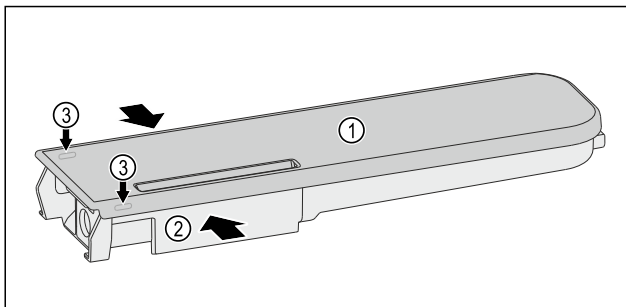

Fig. 220
- ▶ Push the water tanks *Fig. 220 (2)* together, leverage the cover *Fig. 220 (1)* carefully over the latching tabs *Fig. 220 (3)* and lift it up.
- ▶ Move the cover *Fig. 220 (1)* slightly forwards and back, and remove to the top.